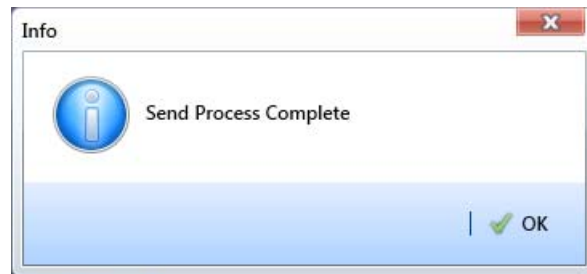

Figure 7-39. Send Process Complete
- 28 Click  **OK** when the message *Send Process Complete* displays (Figure 7-39). PCS Axis sends the survey file to the *PSData* folder on the Allegro.